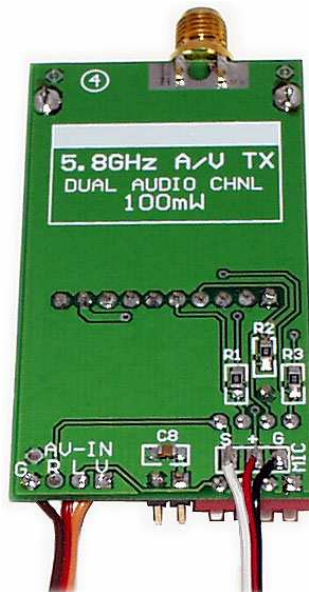

Figure 9, A/V Cables
9 SIDE ④, A/V CABLE INSTALLATION: See Figure 9.